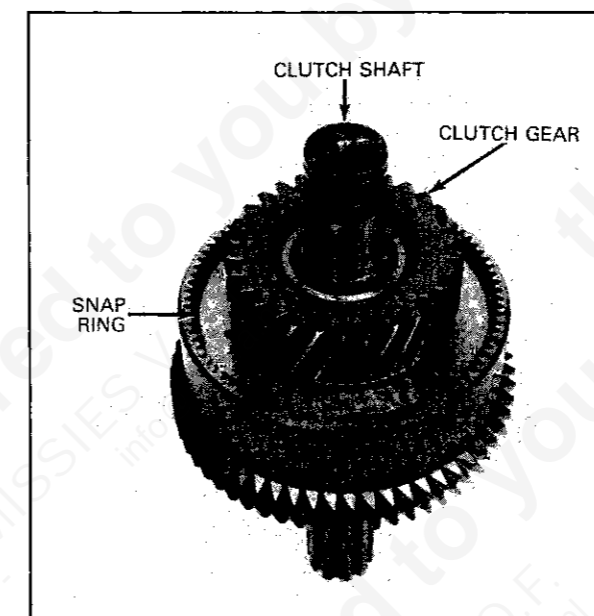

FIG. 14 PRESSURE PLATE SNAP RING REMOVAL
19. Remove the snap ring located in front of the pressure plate of both clutches (Fig. 14).